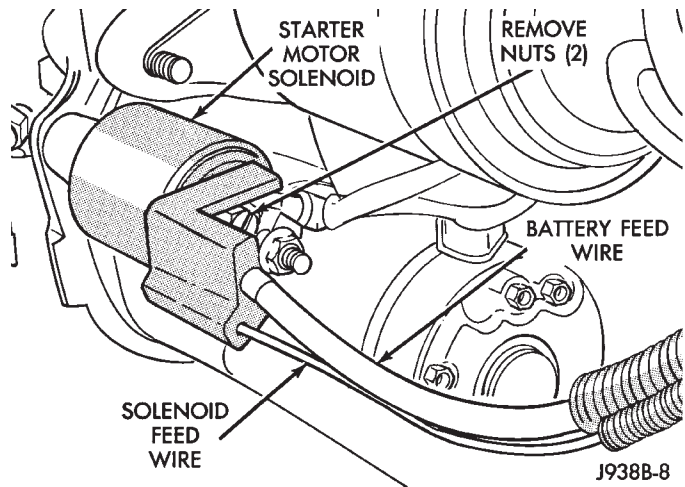

Fig. 10 Starter Wire Harness Remove/Install - Typical
(1) Disconnect and isolate the battery negative cable.
(2) Raise and support the vehicle.
(3) Disconnect the battery cable and solenoid feed wire from the starter solenoid (Fig. 10).